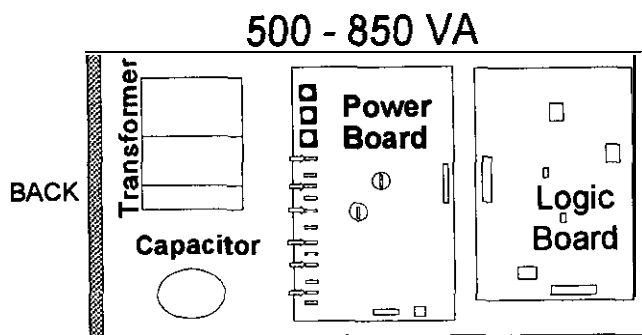

Figure 5
- 301-1. If you are changing the voltage from 120 VAC to 208 VAC or 240 VAC, you must change the power board. Find the power board at the top of the FERRUPS. (See Figure 5.) Look for the part number on a white label on the power board. On **500VA and 700VA models**, power board PCP-0092 must be replaced with power board PCP-0078. On **850VA models**, power board PCP-0099 must be replaced with power board PCP-0080.